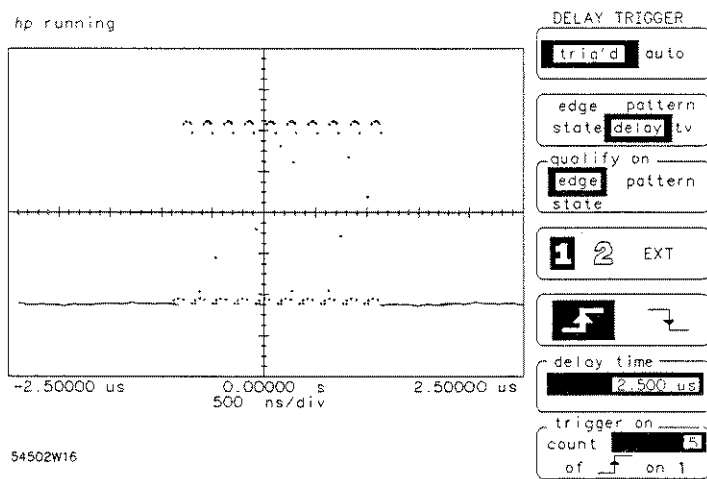

Figure 6-15. Ten Burst Pulse Triggered on Pulse 5
- Return to the trigger menu and set **trigger on count** to 5. This tells the oscilloscope to trigger on the 5th rising edge of the next burst (see Figure 6-15).